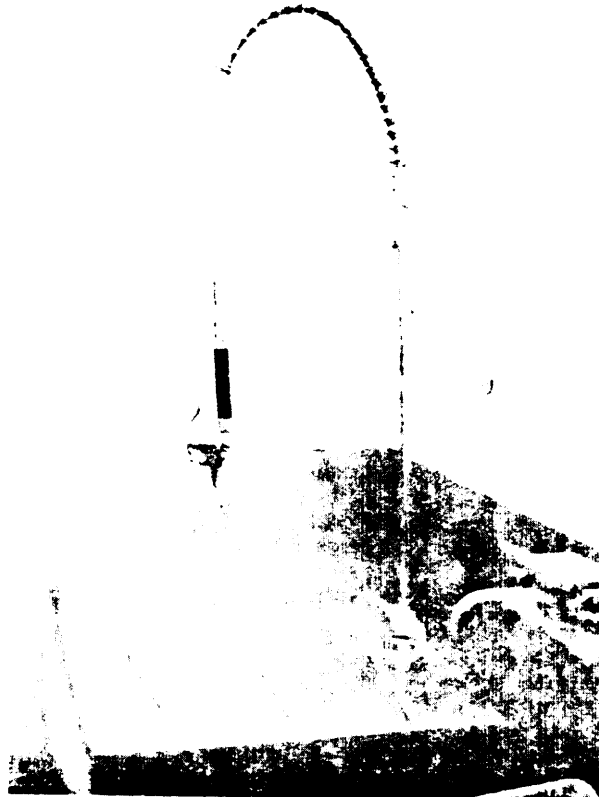

Figure 16 - Prerinse Unit
a. Prerinse unit (Figure 16).- A complete prerinse unit with mixing faucet to insure correct water temperature. The gooseneck reaches 12 inches over the sink at the top, with a swivel type base for increased coverage.